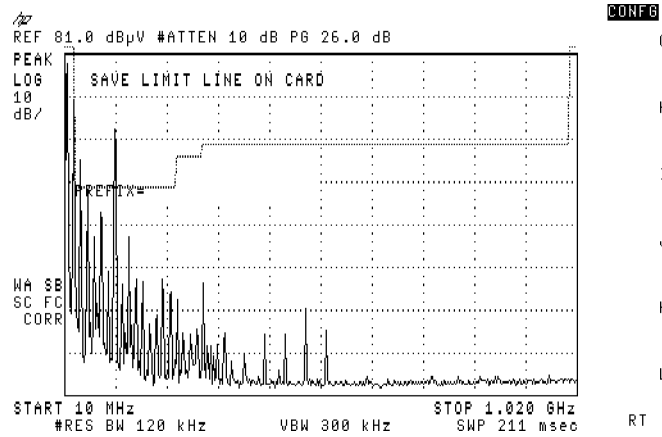

Figure 3-79. Changing the First Letter of the Prefix
8. Press **GHIJKL**. See Figure 3-79.